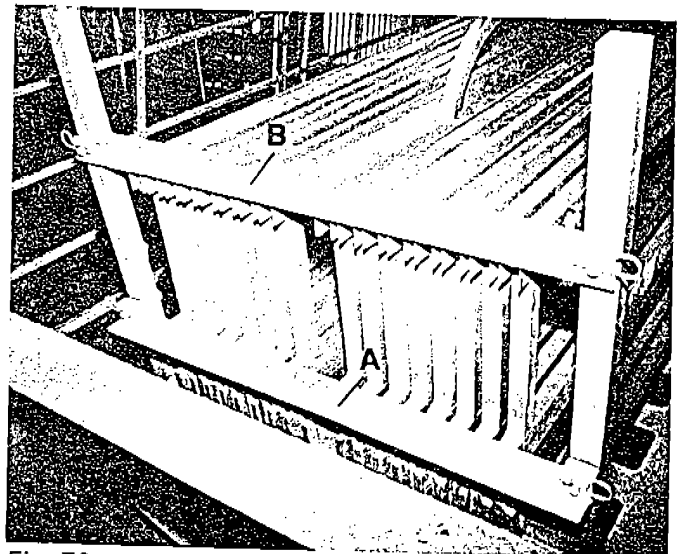

Fig. 76
- c. One "H" shaped racking frame is used to store the walkway handrail sections. Two cross racks will be fastened to the frame during loading. Install the "H" racking frame in the two center holes on the step riser. (Fig. 76)
- (1) The pins on the two vertical legs of the "H" racking frame must face away from the center of the ride.
- (2) Position the permanently fixed cross bar of the "H" frame down close to the step riser.
- (4) Store all top walkway handrail sections in the same manner.
c. Once all the top walkway handrail sections are stored, install a cross rack between the vertical legs of the "H" frame (a). (Refer to Fig. 76)
- (1) Position the angle iron of the cross rack so the angle faces away from the ride, with the lip edge at the bottom.
- (2) Fit the holes in the ends of the cross rack over the lower set of pins on the "H" frame. *Snap Key in Place.*
e. Once all the lower walkway handrail sections are stored, install the top cross rack between the vertical legs of the "H" frame (b). (Refer to Fig. 76)
- (1) Position the angle iron of the cross rack with the flat side toward the outside of the ride. The lip edge is at the top, pointing in